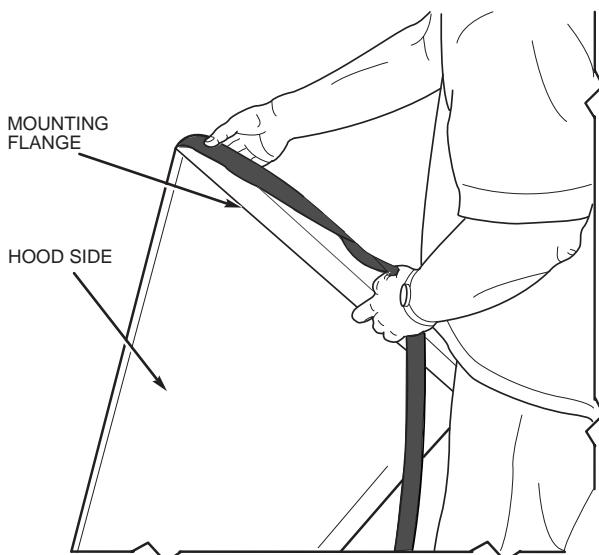

Fig. 18 — Adding Seal Strip to Mounting Flange of Hood Sides
- d. Apply black seal strip to mounting flanges (cover holes) of hood sides. See Fig. 18.